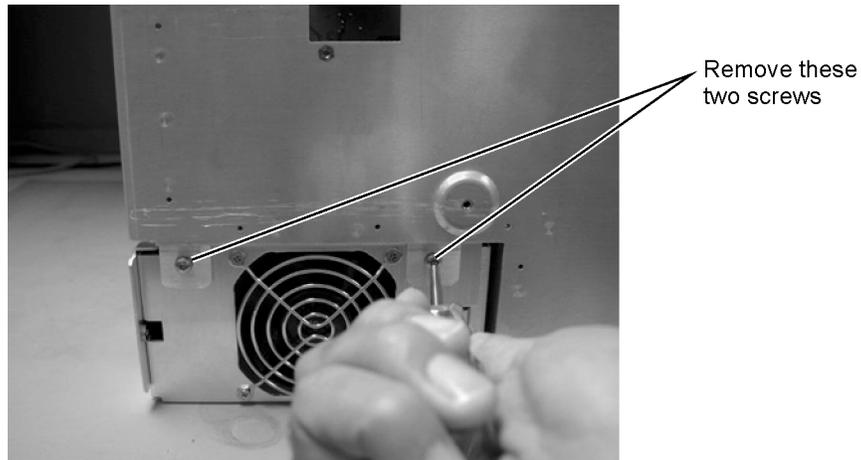

Figure 4-58. Removing the Screws Securing the Power Supply
- 2 Use a T-15 TORX driver to remove the two screws that secure the mainframe to the top of the A1 Power Supply, as shown in Figure 4-58.